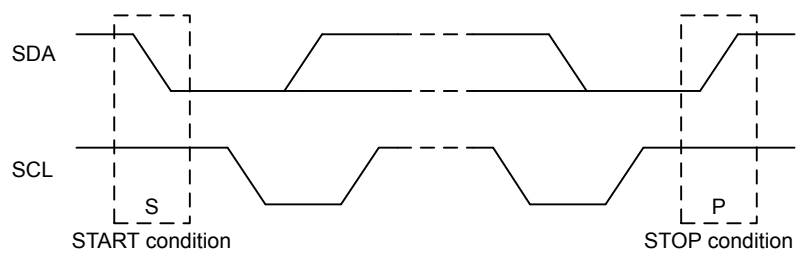

Figure 18.4. I2C START and STOP Conditions
START and STOP conditions are used to initiate and stop transactions on the I²C-bus. All transactions on the bus begin with a START condition (S) and end with a STOP condition (P). As shown in Figure 18.4 I2C START and STOP Conditions on page 522, a START condition is generated by pulling the SDA line low while SCL is high, and a STOP condition is generated by pulling the SDA line high while SCL is high.